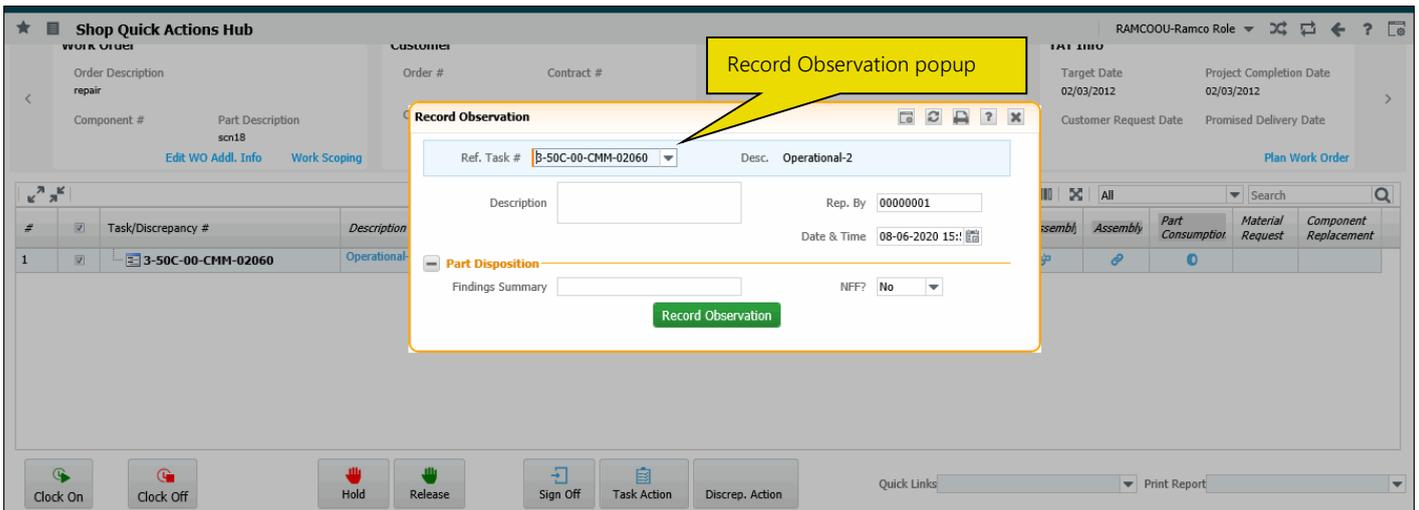

Figure 2.9: Recording observations
1. Click the  icon to record observation on the task / discrepancy selected in the tree grid of the **Shop Quick Actions Hub** screen. The **Record Observation** popup appears. See Figure 2.9.